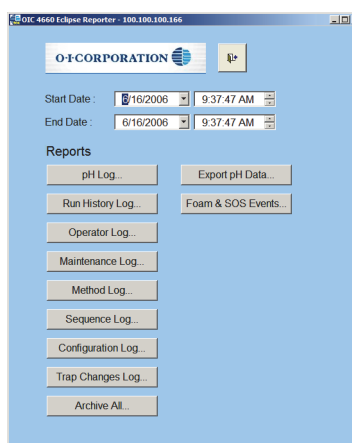

Figure 6.26. Eclipse Reporter Reports screen
The Reports feature generates and accesses reports compiled from the Eclipse's database and is only available on the Eclipse PC software; versions prior to 2.1 require Microsoft Access be installed on the PC. Press the **Reports** icon to open the Reports screen (Figure 6.26).
- Select the **Start Date** and **Time** and **End Date** and **Time** to define the report (see Figure 6.26).